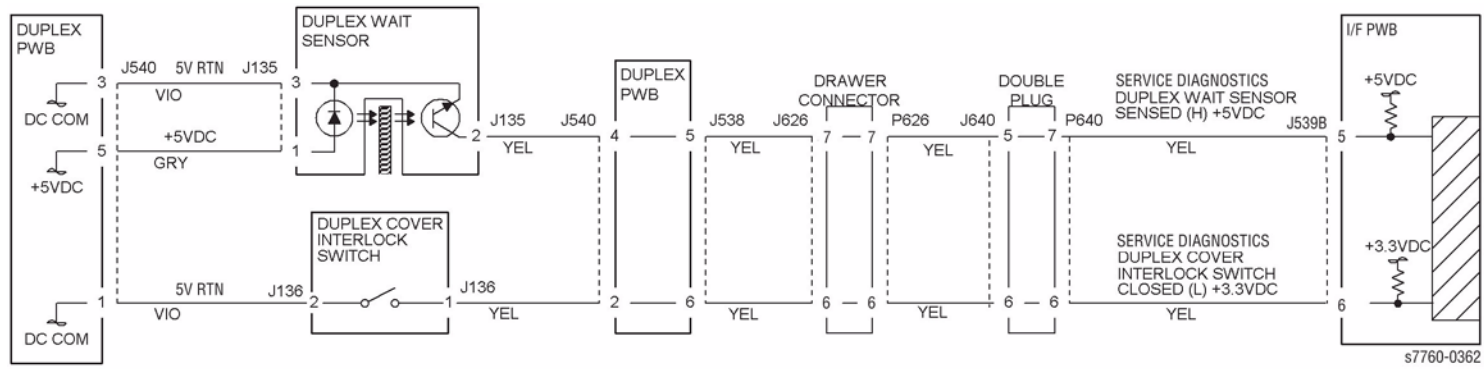
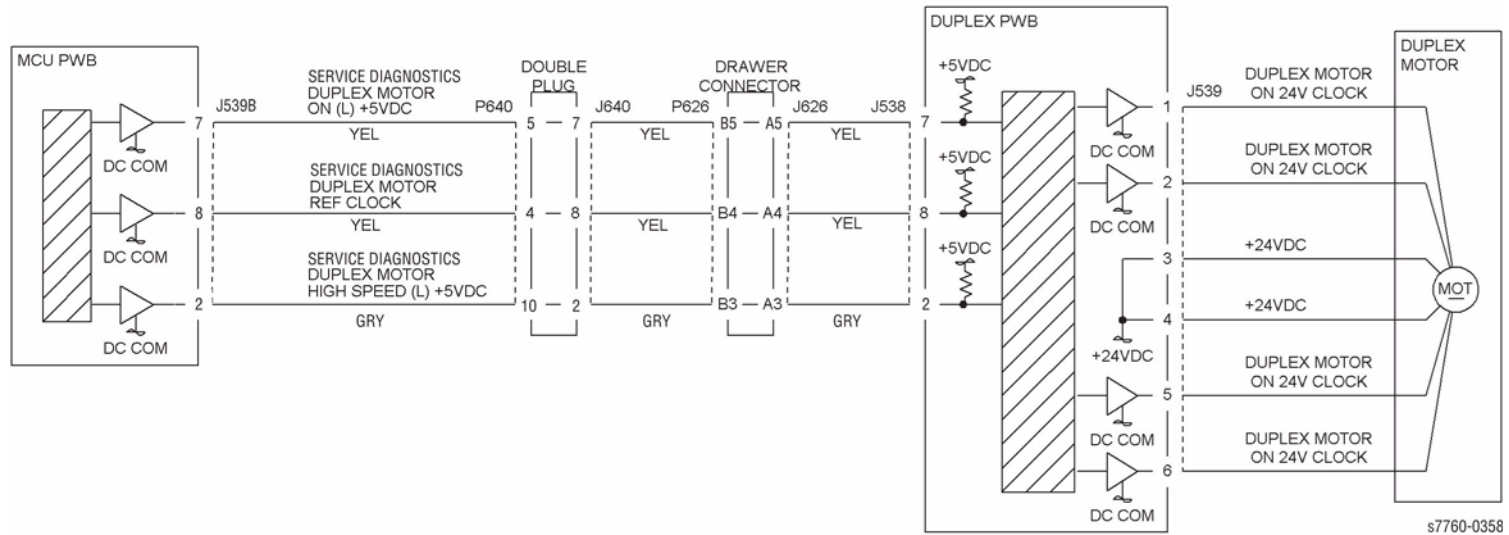
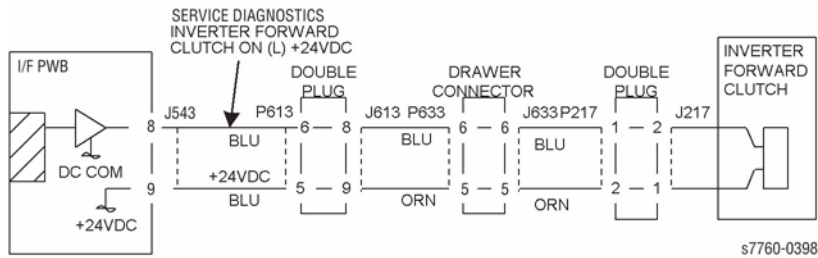
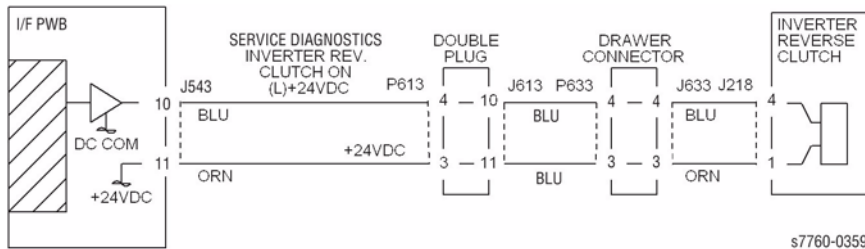

Figure 1 010-125 Duplex Wait Sensor
Figure 2 010-125 Duplex Motor
Figure 3 010-125 Inverter Forward Clutch
Figure 4 010-125 Inverter Reverse Clutch
Check the circuit of the Inverter Forward Clutch (Figure 3). Refer to Section 2, OF 99-4 RAP for troubleshooting procedure.
Check the circuit of the Inverter Reverse Clutch (Figure 4). Refer to Section 2, OF 99-4 RAP for troubleshooting procedure.
- Ensure that the connectors shown in the circuit diagrams (Figure 1, Figure 2, Figure 3, Figure 4) are securely connected and that the wires are not damaged.